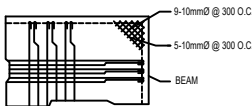

FIG. 3. CORNER SLAB
- G. EXTRA REINFORCEMENTS SHALL BE PROVIDED AT CORNER SLAB AS SHOWN IN FIGURE 3.